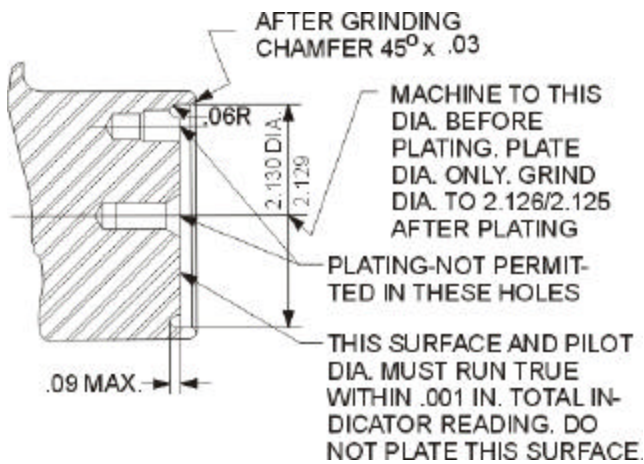

Figure 1. Details for Repairing Pilot Diameter of Crankshaft
- a. After removing the dowel, machine the pilot diameter in the end of the crankshaft to 2.129/2.130 inch as shown in the illustration. See Figure 1. Also, cut the .09 deep x .06R undercut as shown.
- e. Chamfer edge of pilot diameter $45^\circ \times .03$ as shown in Figure 1.